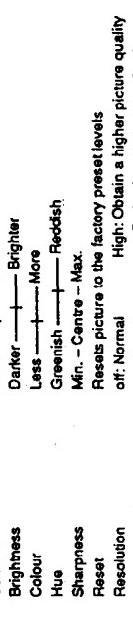

Fig. 31.
- Using o + or s - select the item you want to adjust and press OK. The selected item changes colour. (See Fig. 31.)